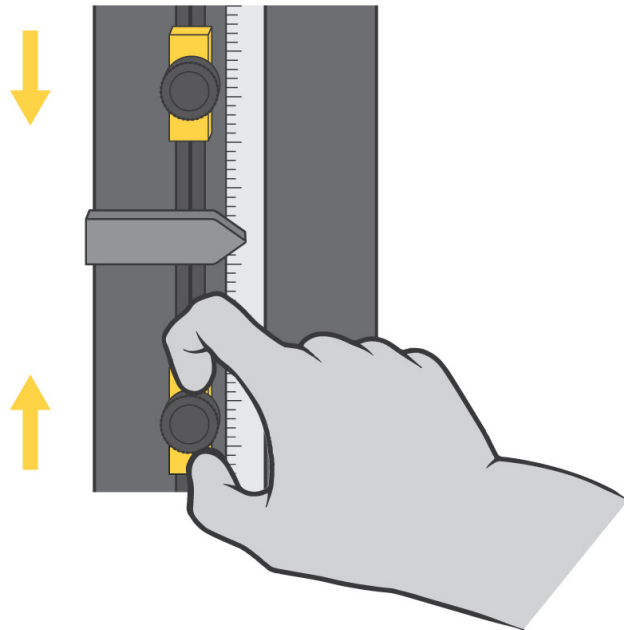

Figure 17. Setting Limit Stops
The crosshead limit stops are two adjustable blocks mounted on the limit switch rod, which is located inside the column of the machine, as shown in Figure 17 on page 94. Limit stops (1 and 2) have thumbscrews that you tighten and release by hand, and you can move them to any position on the limit rod. Position these stops just beyond the test parameters to prevent crosshead over-travel. When the crosshead reaches the maximum pre-set travel, the limit switch actuator (3) contacts one of these stops. Contact between the limit actuator and the limit stop moves the limit switch rod (4) and activates the limit switches. This stops crosshead motion.